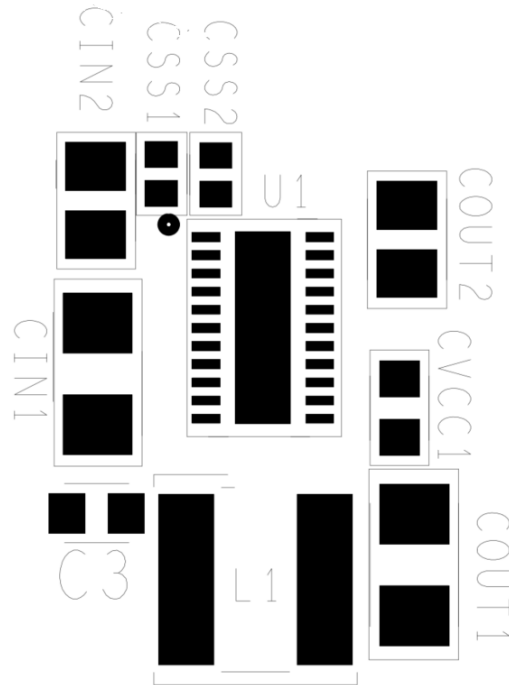

Figure 61. Printed Circuit Board Example Component Placement
Proper layout of the power converter minimizes EMI and noise, and ensure first pass success of the design. PCB layouts are provided in multiple formats on the Renesas web site. In addition, Figure 61 illustrates the important points in PCB layout. In reality, PCB layout of the RAA212421 is quite simple.
- A multilayer PCB with GND plane is recommended. Figure 61 shows the placement of the critical components in the converter. Note that capacitors C_{IN} and C_{OUT} could each represent multiple physical capacitors. The most critical connections are to tie the GND1 and GND2 pins to the package GND pad and then use vias to directly connect the GND pad to the system GND plane. This connection of the GND pad to system plane ensures a low impedance path for all return current, as well as an excellent thermal path to dissipate heat. With this connection made, place the high frequency MLCC input capacitor near the V_{IN1} pin and use vias directly at the capacitor pad to tie the capacitor to the system GND plane.
An example component placement is shown in Figure 61.